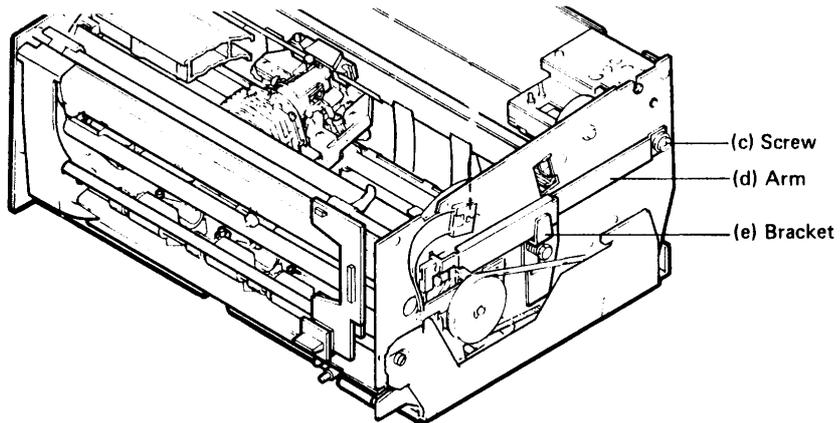

Figure 3-34a Preparing to remove the carriage motor
1. Mount the motor by reversing the procedure described above for removal. Do not forget to connect the ground lead to the side plate and that the rear end of arm (d) in Figure 3-34a should be in its uppermost position.